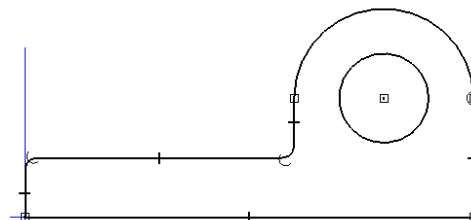

Figure 2-46 Final profile for Tutorial 3
4. Similarly, move the cursor over the corner where the upper horizontal line intersects the vertical line originating from the left endpoint of the arc. Click to select it when the two lines forming this corner are highlighted in orange, refer to Figure 2-46. Next, press ENTER.
4. Move the cursor over the center point of the arc and click to define the center point of the circle when the concentric relationship handle is displayed. This completes the profile. The final profile for Tutorial 3 is shown in Figure 2-46.